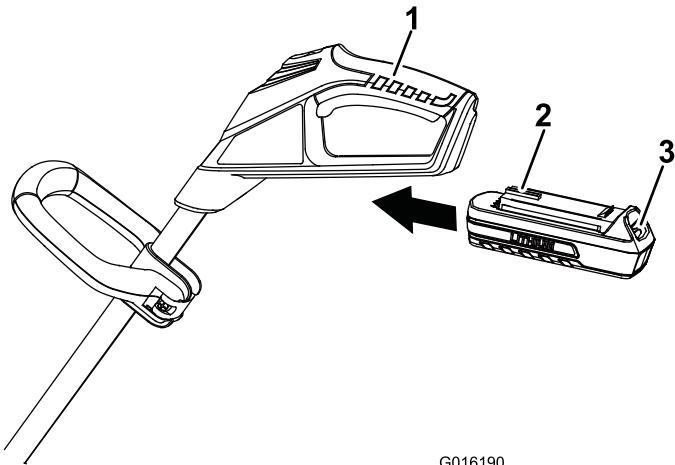

Figure 6
- Align the tongue of the battery pack with the cavity in the handle housing (Figure 6).
- Grasp the trigger handle (Figure 6).
- To start the trimmer, slide the lock switch back to the On position, then squeeze the trigger (Figure 6).